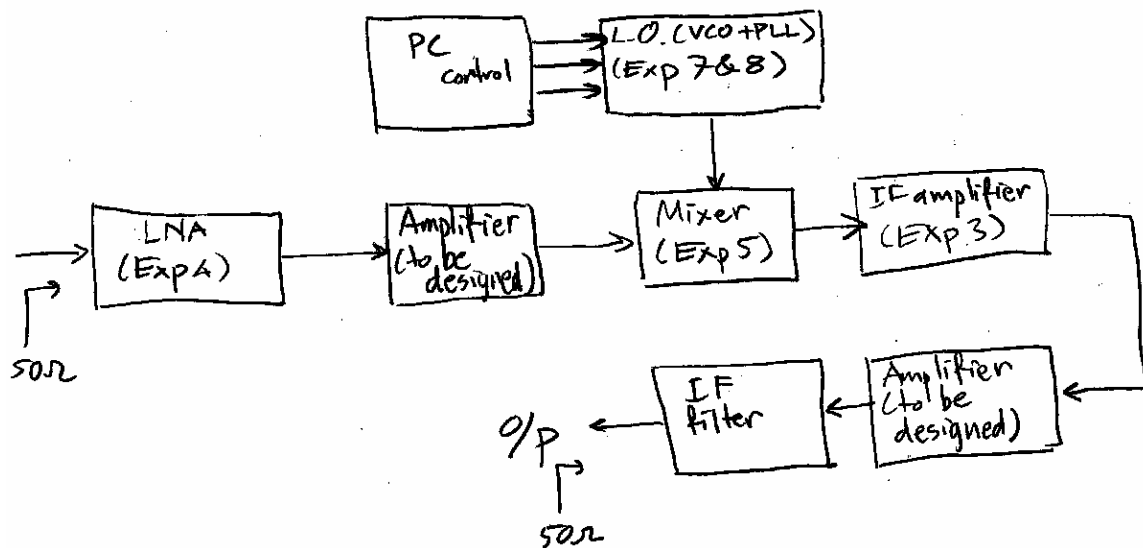
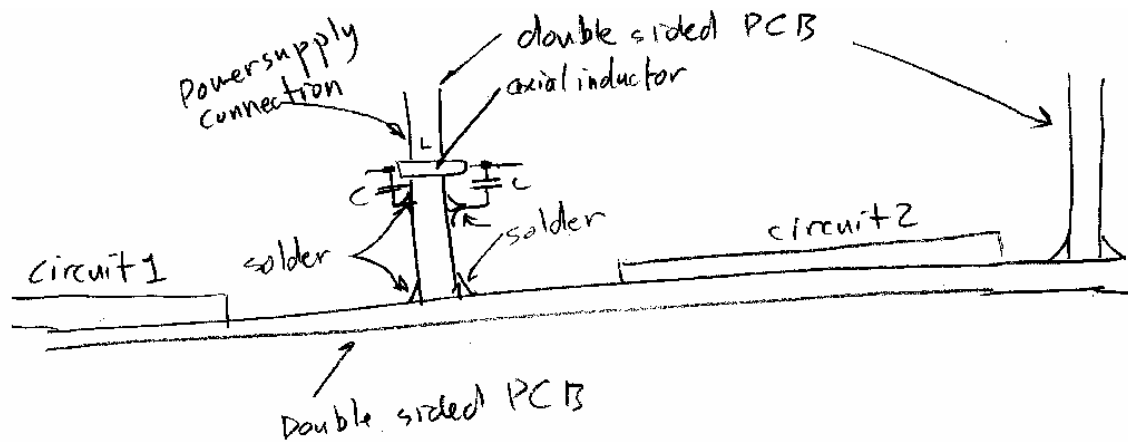

Fig 1: Block diagram of the project circuit.
Fig 2: Construction of the faraday's cage
3. Construct your receiver as shown at the block diagram (Fig.1). The receiver subcircuits-frontend amplifier, mixer, IF amplifier and the frequency synthesizer-must be placed in separate faraday's cages in order to minimize the interference and cross-coupling between the subcircuits. The power supply connection (only the positive) must be filtered while entering each box (as shown in Fig.2). The negative DC connection can be coupled via the chassis. The thickness of the walls of the boxes must be chosen with skin depth in mind.